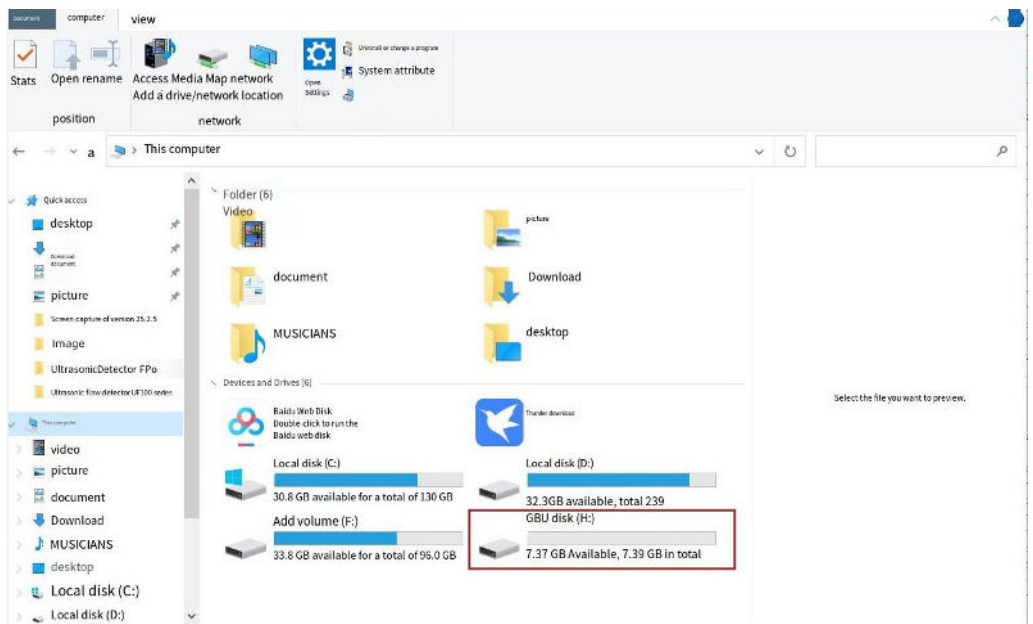

Figure53 USB flash disk mode
3. On the computer side, open My Computer (see Figure53 for the operation interface diagram).